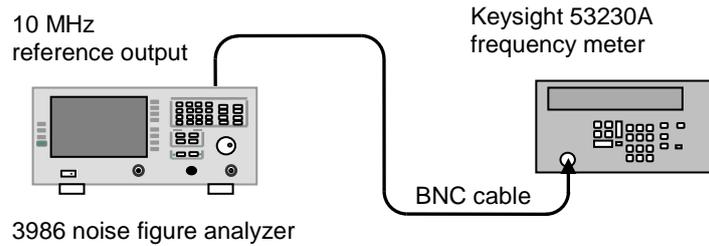

Figure 8.1 Test Block Diagram of Reference Frequency Accuracy
Step 1. Connect the test instrument as shown in Figure 8.1 and warm it up for 30min.